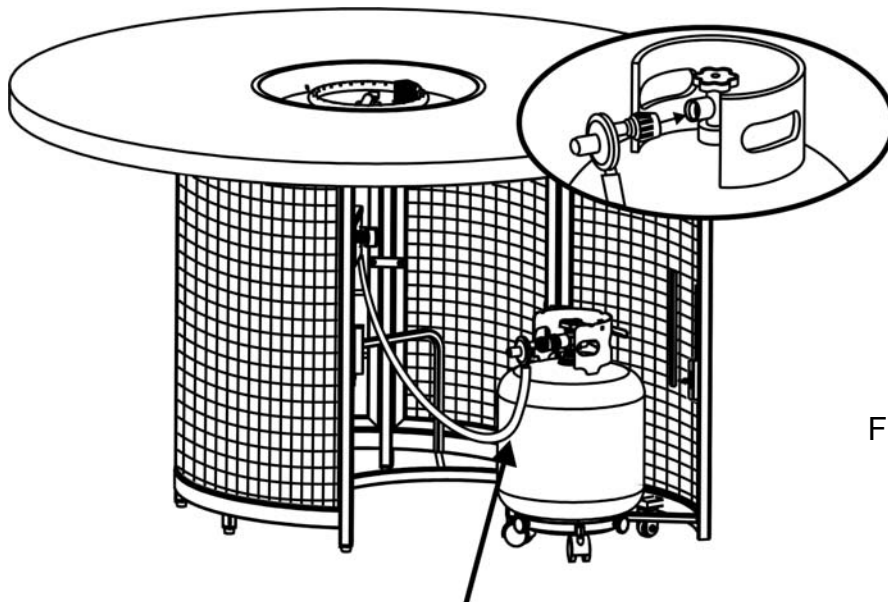

Figure 5
5. Slide the tank drawer out and place the LP tank in the drawer. Connect the regulator as shown in Figure 5. Turn the black handle clockwise to tighten. Turn the handle counterclockwise to remove. The hose must point down. Check that the valve is turned all the way clockwise to the "OFF" position. Open the tank valve. Apply a solution of soapy water to the tank-regulator connection and to the valve-hose connection to check for leaks. If soap bubbles continue to form, the connection has a leak. If a leak is found, close the tank valve and tighten all connections.